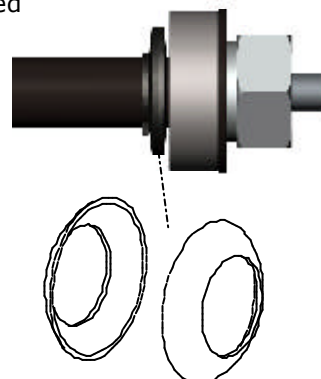

Figure 4
8. To reassemble the hub, make sure that the small cone ring (6) and a bushing (7) are attached to the hub axle (2).
9. If you have removed the large cone ring and the bushing that remained in the hub casing (9), put these back.
10. Replace the two curved washers (8) in the hub casing (9). Make sure that the curve of the washers are placed together so that the washers do not lie one inside the other. See figure 4.
11. Insert the hub axle (2) into the hub casing (9) in the way described in point 8 and knock the bushing (7) into the hub casing (9).
12. You then place the spring (5) and the hub bar (4) into the hub axle (2).
13. Carefully replace the balls (3).
14. Tighten the hub nut (1). (As described in point 2).